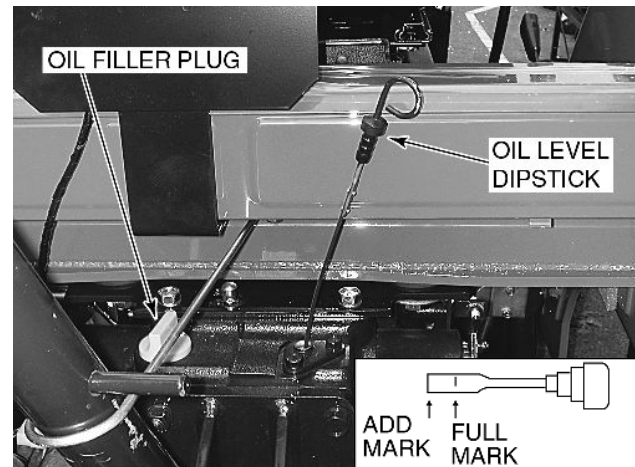

Figure 55 - Transmission, Rear Axle and Hydraulic System Oil Level Dipstick/Filler Plug
1. With the tractor standing level and the engine off, check the oil level with the dipstick, Figure 55.
The filler plug is shown in Figure 55.
3. Remove the filler plug and dipstick, Figure 55, and fill with new oil of the type specified, page 36.